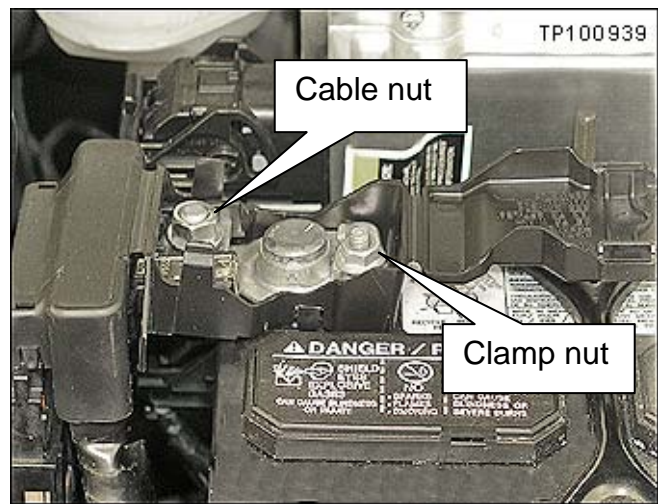

Figure 2
4. Remove the cable nut shown in Figure 2.